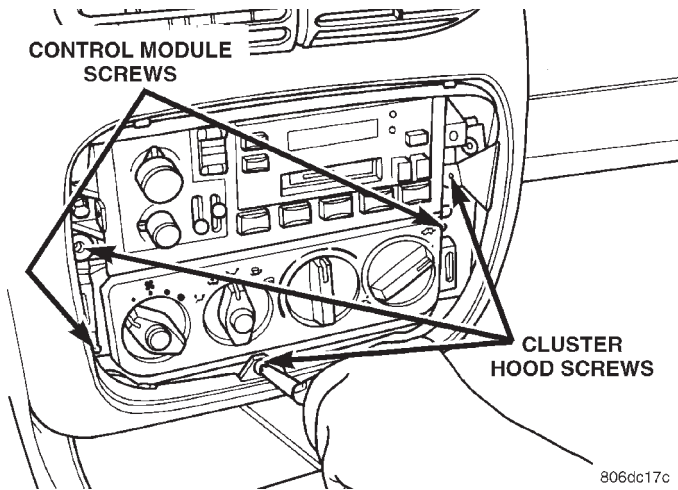
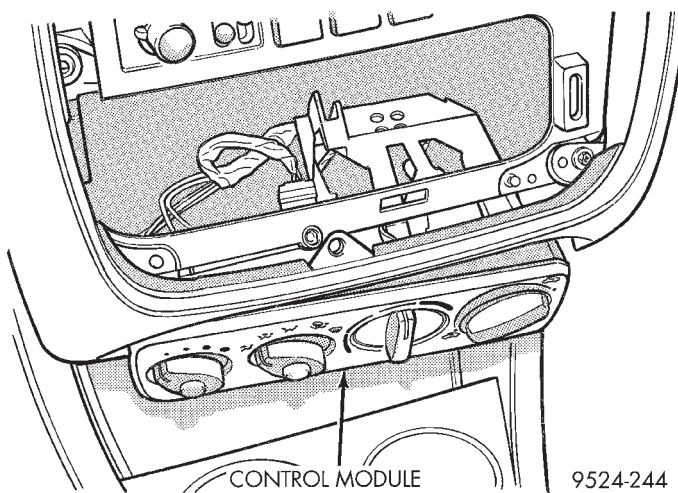

Fig. 30 Control Module Screws
Fig. 31 Control Module At Bezel Opening
- (3) Remove cluster hood bezel retaining screws in the trim bezel opening (Fig. 30).
- (4) Pry up the cluster hood bezel a few inches to expose the cubby bin/cigar lighter bezel screws.
- (5) Remove the cubby bin/cigar lighter bezel and wiring.
- (6) Remove the control module retaining screws.
- (7) Drop the A/C control module into the cigar lighter/cubby bin bezel opening (Fig. 31). Then disconnect the wiring on the rear of the control module.
- (8) Release the cable clips from the top of the control module. Retain the clips for future use. Then disconnect the temperature control and recirculation control cables.
- (9) Remove the control module.